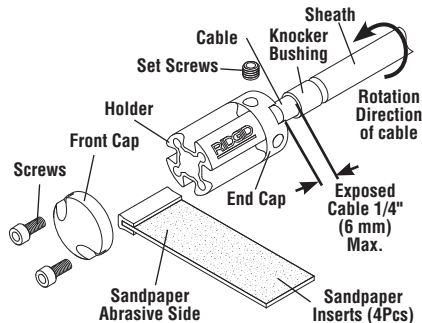

Figure 1 – RIDGID® FlexShaft Sandpaper Attachment
The RIDGID® FlexShaft Sandpaper Attachments are designed to be used with RIDGID FlexShaft Machines for final cleaning of pipe walls (such as before pipe lining) or final reinstatement/lateral clean up after pipe lining (Figure 1).
1. Remove the two screws holding the front cap and remove the front cap. (See Figure 1.)